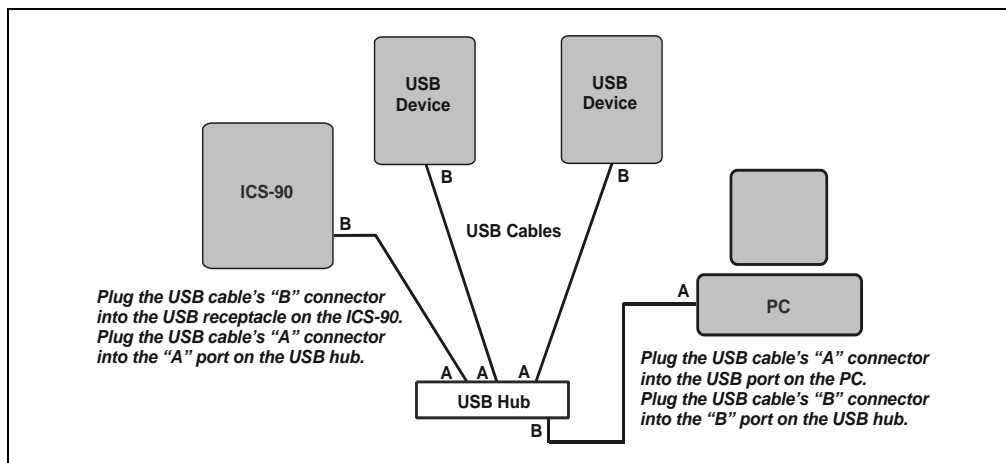

Figure B-7. Example Connections: Multiple Modules Connected to an External Hub
1. Plug the “A” connector of a USB cable into a port on the external USB hub (see Figure B-7).
2. Plug the “B” connector of the cable into the USB receptacle on the ICS-90 rear panel (see Figure B-7).
3. Plug the "A" connector of a USB cable into a USB port on the computer (see Figure B-7).